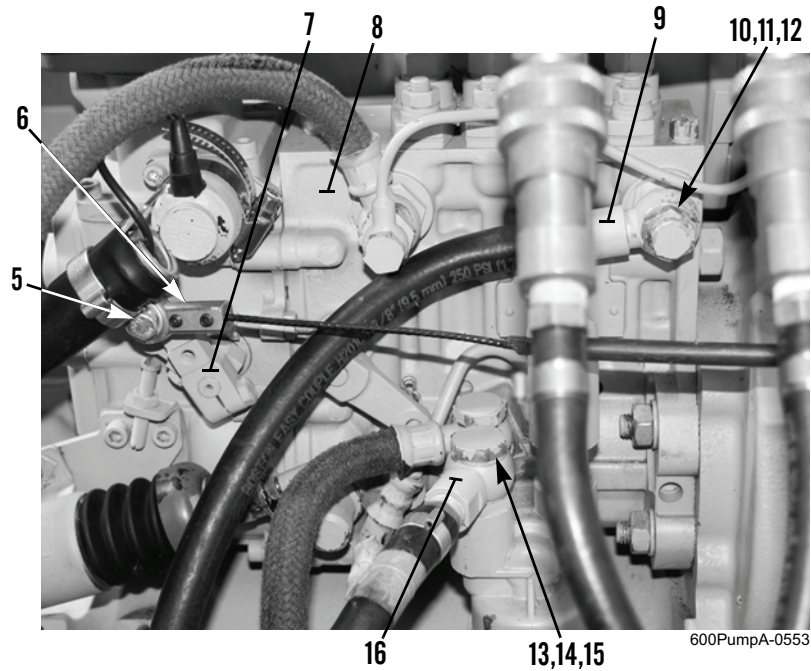

Figure 2. Throttle and Fuel Line Connections.
3. Remove bolt (Figure 2, Item 5) and rod (Figure 2, Item 6) from throttle arm (Figure 2, Item 7) at fuel injection pump (Figure 2, Item 8).
5. Remove fluid passage bolt (Figure 2, Item 10), sealing washer (Figure 2, Item 11), fuel line (Figure 2, Item 9), and sealing washer (Figure 2, Item 12) from fuel injection pump (Figure 2, Item 8). Discard sealing washers.
6. Remove fluid passage bolt (Figure 2, Item 13), sealing washer (Figure 2, Item 14), fuel line (Figure 2, Item 16), and sealing washer (Figure 2, Item 15) from fuel injection pump (Figure 2, Item 8). Discard sealing washers.